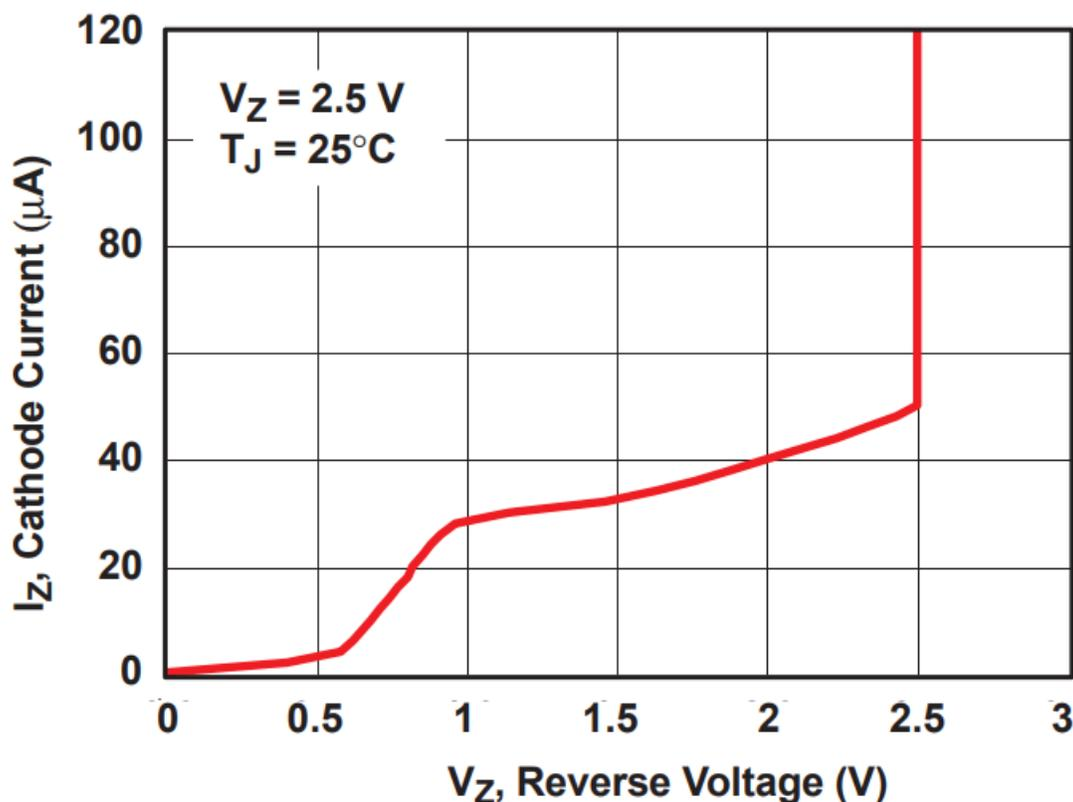

Figure 3. The TI LM4040 2.5V Voltage Reference
As shown in Figure 3, the voltage across the voltage reference becomes well regulated when I_z is only $50\mu\text{A}$. Figure 3 shows characteristics of the Texas Instruments (TI) LM4040 at 25°C , yet the data sheet shows superb voltage accuracy when biasing well below $100\mu\text{A}$ over ambient temperatures from -40°C to $+125^\circ\text{C}$ (this is the extended Q-grade temperature version; the normal industrial temperature range is -40°C to $+85^\circ\text{C}$). Some voltage references operate at an even lower current, such as the ATL431 and LM385.